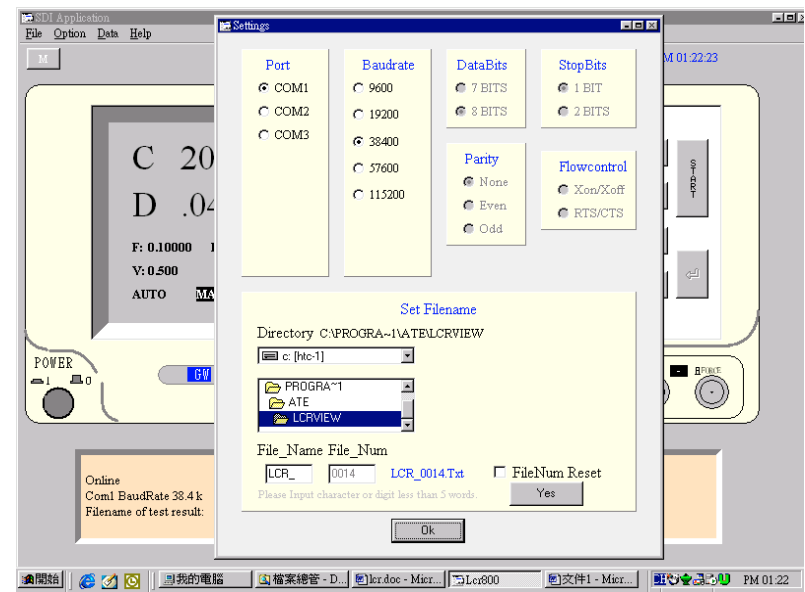

Figure 9-7
- StopBits: There is only 1 Bit of StopBits, and User can not change it (Figure 9-7).